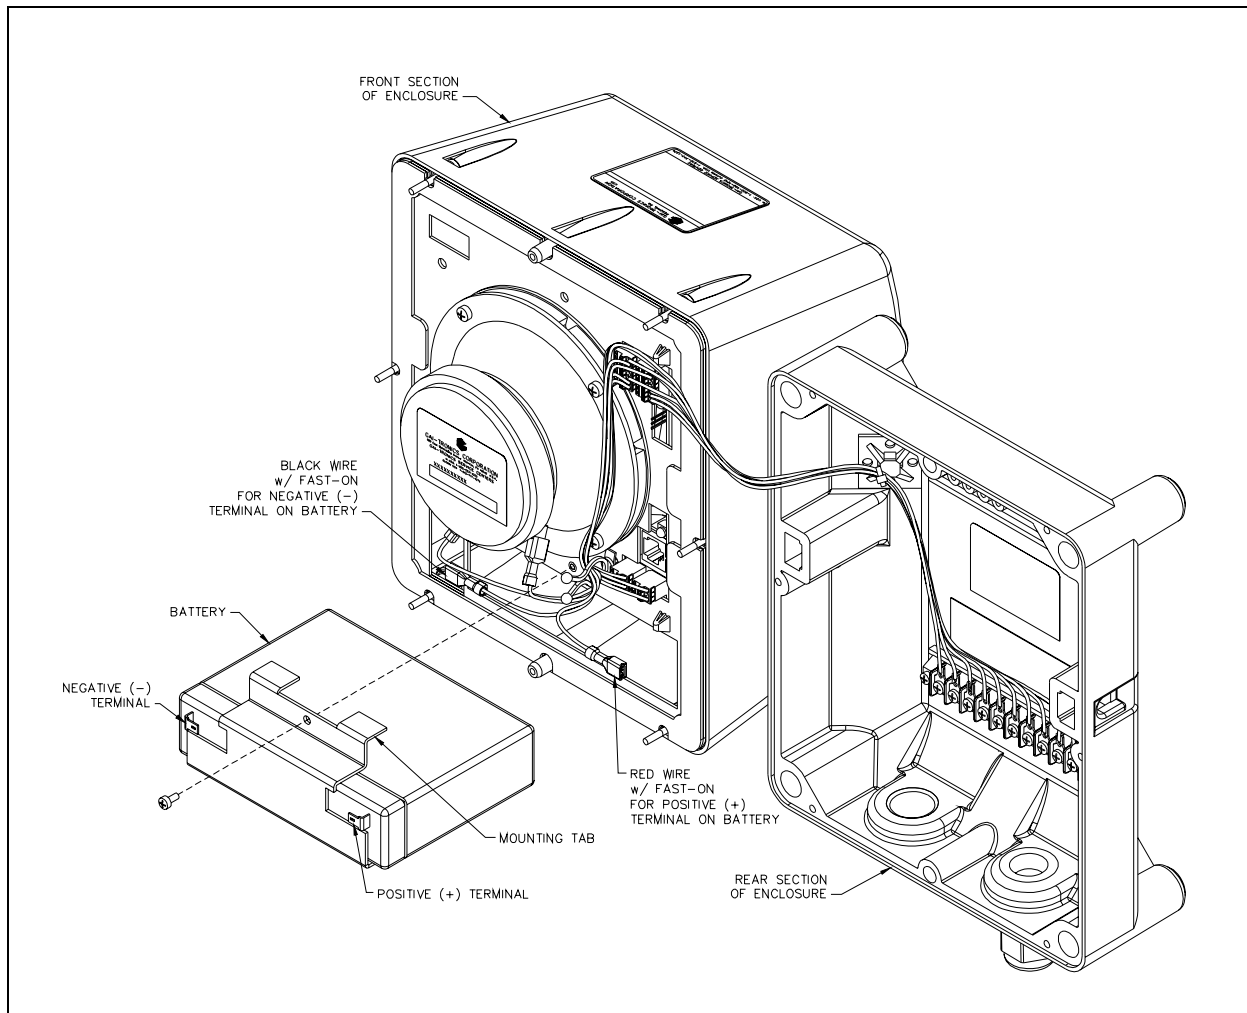

Figure 1.
2. Back out the screws on all sides of the speaker (only the left and right screws are fastened on new units). All screws are captive and will remain in the front section. Lift the front section straight up and flip to the left-hand side of the rear section. Refer to Figure 1.
4. Slide the battery into the bracket, observing the positioning to properly expose the connection terminals. The bracket is designed to fit snugly over the battery. With the mounting tab positioned on top of the battery, the positive terminal must be positioned to the right. Refer to Figure 1.